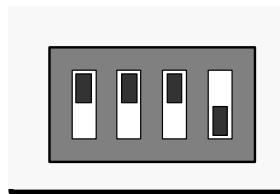

Figure 2: Boot Select Switch
1. Make sure that the Boot Select switch (in the bottom right-hand corner of the MU Board) is in the correct position, as shown in Figure 2,
Setting the Boot Select switch to the position shown in Figure 2 makes sure that the Komodo ARM Environment is started every time the power is turned on to the board; you should actually see the words “Komodo ARM Environment” on the LCD module. This Environment consists of software that runs on the board itself; it is sometimes called the “back-end”. It communicates with the Komodo debugger running on the Host PC through the serial cable.